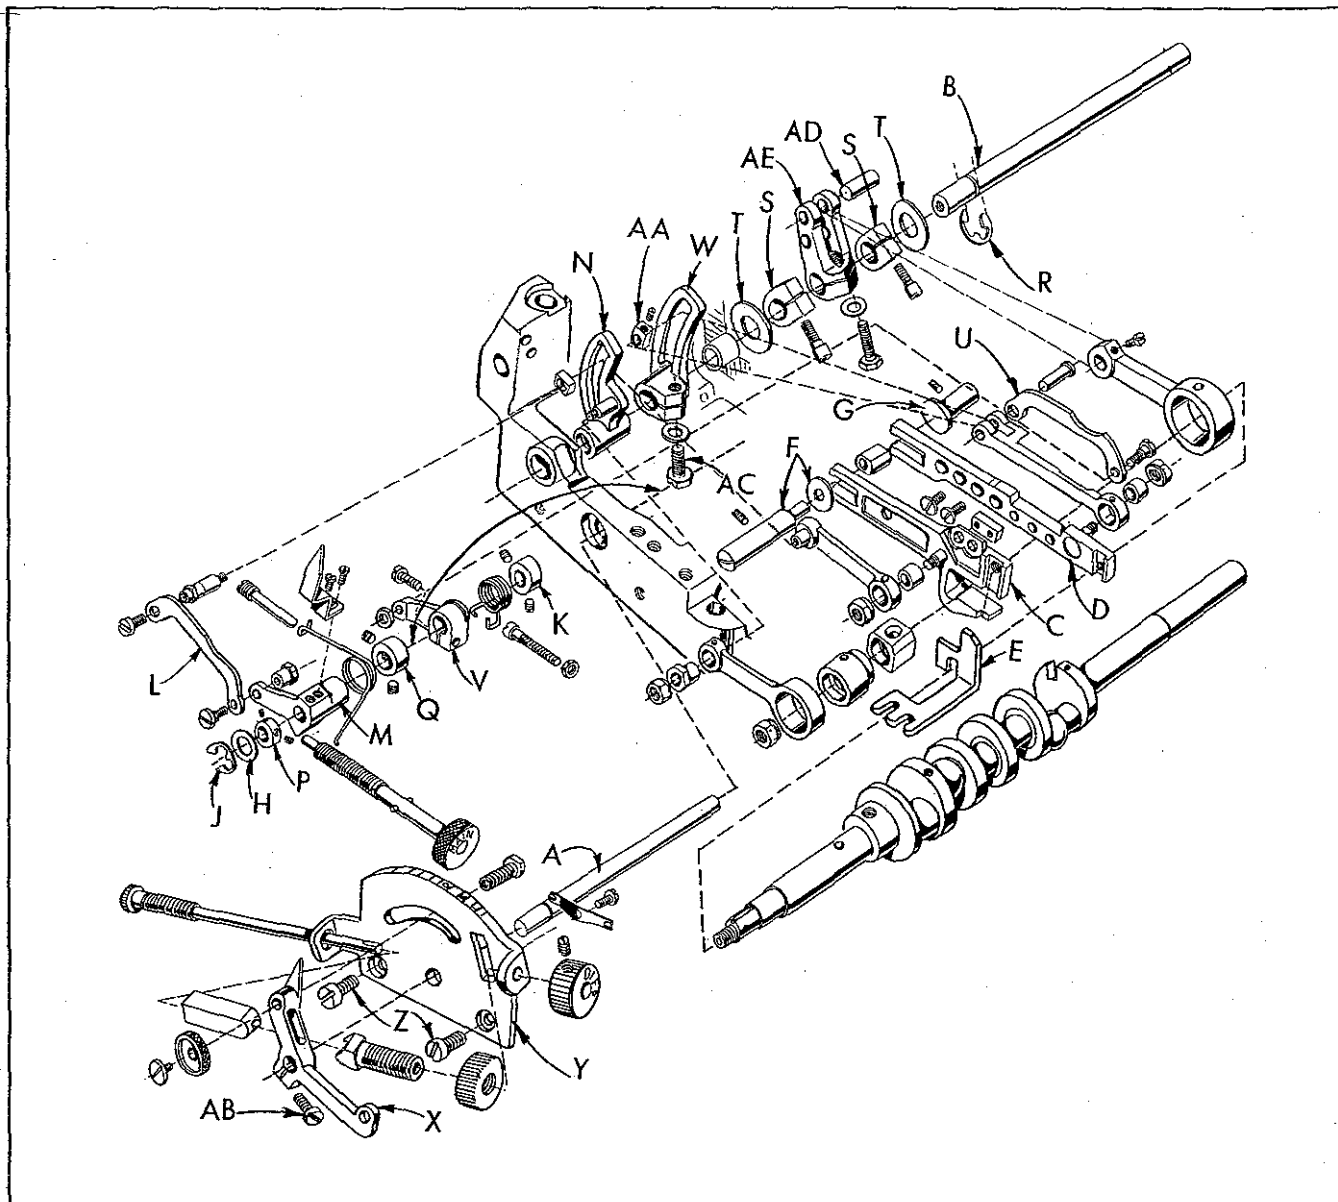

Fig. 26
1. Assemble parts as illustrated to feed control shaft (A, Fig. 26) and feed rock shaft (B); including feed bars.
2. Thrust feed bars (C and D) against differential thrust guide on bed. Thrust left side of main feed bar (C) with left feed bar thrust guide (E). Align and thrust rear of feed bars with tilt adjusting pin and washer (F) and guide pin (G).
3. Thrust the feed control shaft (A) assuring that washer (H) is against retaining ring (J) and flush against the recess in the bed casting. Collar (K) should be thrust against the bed casting and tightened securely.
4. Main feed control link (L) and main feed drive lever (M) must be in alignment with main feed rocker lever (N) to avoid binding and secured in position by collars (P and Q).
5. Feed rock shaft (B) should be positioned with the opening of the retaining ring (R) upwards and thrust against the main feed rock lever (N). Secure shaft (B) in this position by thrusting collars (S) against thrust washers (T) against the bed casting.
6. Differential feed control link (U) and differential feed control lever (V) must be in alignment with differential feed rocker lever (W) to avoid binding. Also the differential feed rocker lever (W) must thrust against the main feed rocker lever (N). Lever (V) and rocker lever (W) can be positioned as required and secured in place by their clamp screws.
7. A bind could occur in the main feed drive lever (M), differential feed control lever (V) and differential feed indicator lever (X) if the indicator plate (Y) is not properly aligned. Oversize holes are provided in plate (Y) for its mounting screws (Z) to allow repositioning to eliminate bind.